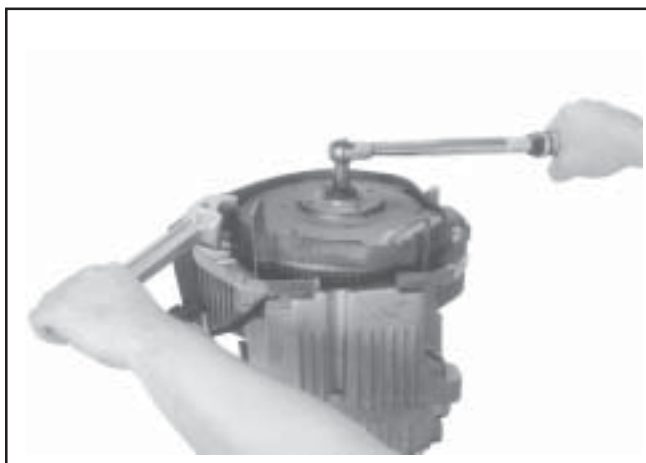

Figure 11-25. Installing and Torquing Flywheel Fastener.
4. Use a flywheel strap wrench or holding tool to hold the flywheel. Torque the hex flange screw securing the flywheel to the crankshaft to **66.4 N·m (49 ft. lb.)**. See Figure 11-25.